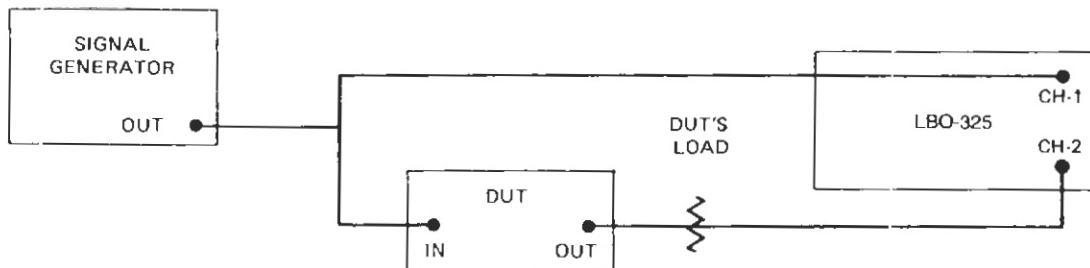

Figure 2-21. Test setup for distortion comparison and phase measurement
Phase difference or phase angle between two signals can be measured using the dual trace feature of the oscilloscope or by operating the oscilloscope in the X-Y mode. When measuring phase shift or signal-processing devices, the test setup shown in Figure 2-21 can be used.
1. Connect the output of a signal generator (of frequency suitable to the device under test) to the CH 1 or X IN connector (9) and the input of the Device Under Test (DUT).
2. Connect the CH 2 or Y IN connector (10) to the output of the device or its load (see Figure 2-21).
4. If the DUT has reversed the phase, press the CH 2 INV pushbutton (17).
5. Superimpose the two traces with the Vertical Position controls (14) and (15), and use the VARIABLE control (12) of the highest amplitude trace to achieve the best trace match.